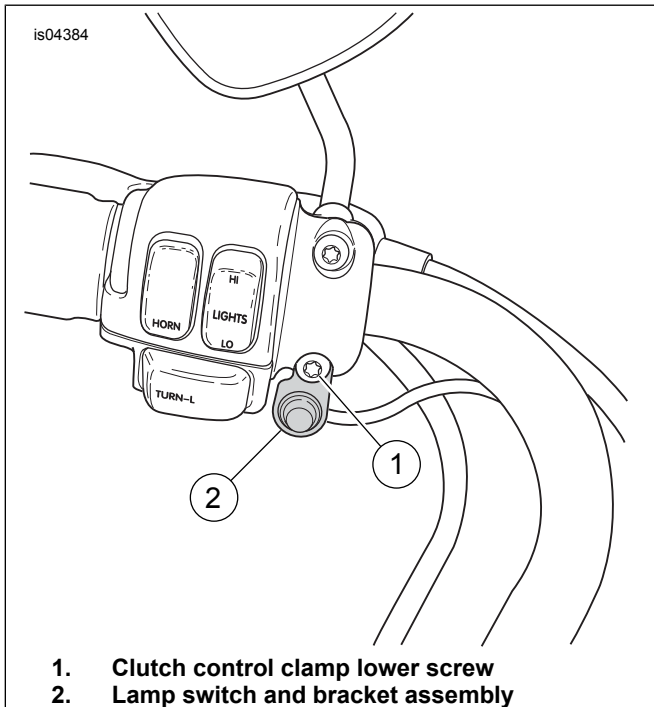

Figure 6. Install Lamp Switch to Clutch Control Clamp
15. See Figure 6. Remove the lower screw (1) and washer from the clutch control clamp, and install the lamp switch and bracket assembly (2). Install the screw and washer and tighten to 7–9 N·m (60–80 **in-lbs**).